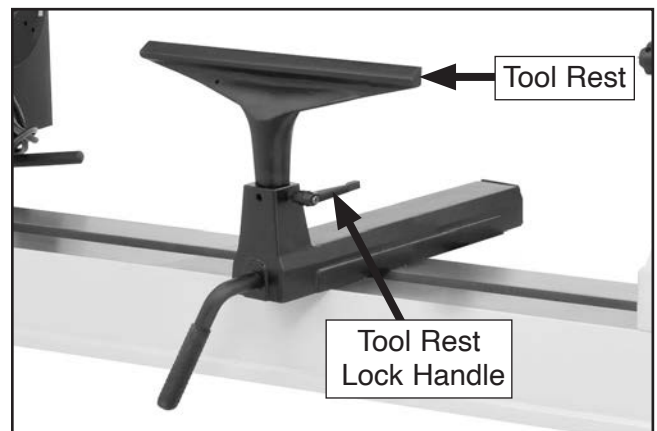

Figure 8. Example of tool rest installed in base.
12. Loosen tool rest lock handle, install tool rest in tool rest base, then secure tightly with tool rest lock handle (see **Figure 8**).